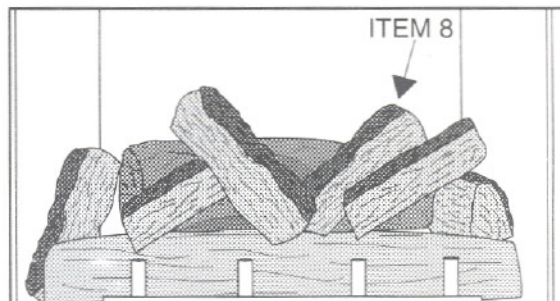

Figure 60
8. See Figure 60. The final log to be placed is Item 8. Position this log with the bark to the left. The front end of the log lays on the Front Log, behind the right edge of Item 7. The right end of Item 8 is then placed on the right edge of the back log.